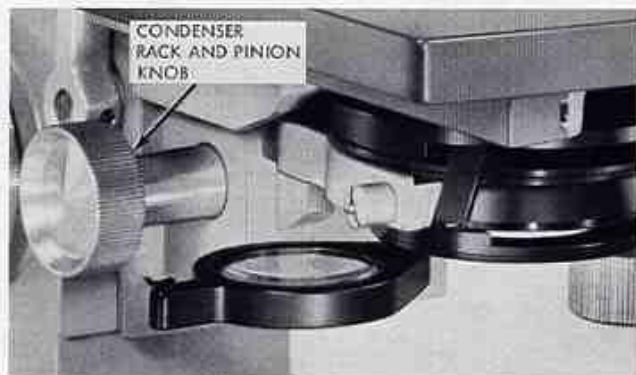

Figure 34. Condenser Rack and Pinion Knob
6. Raise the microscope condenser by means of the condenser rack and pinion knob, figure 34. Raise until the top of the condenser is approximately the thickness of a piece of paper beneath the slide.